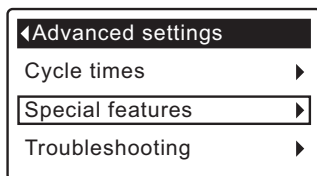

FIG. 72
3. Press the OK/MENU button to display the Advanced settings menu (See Figure 72).